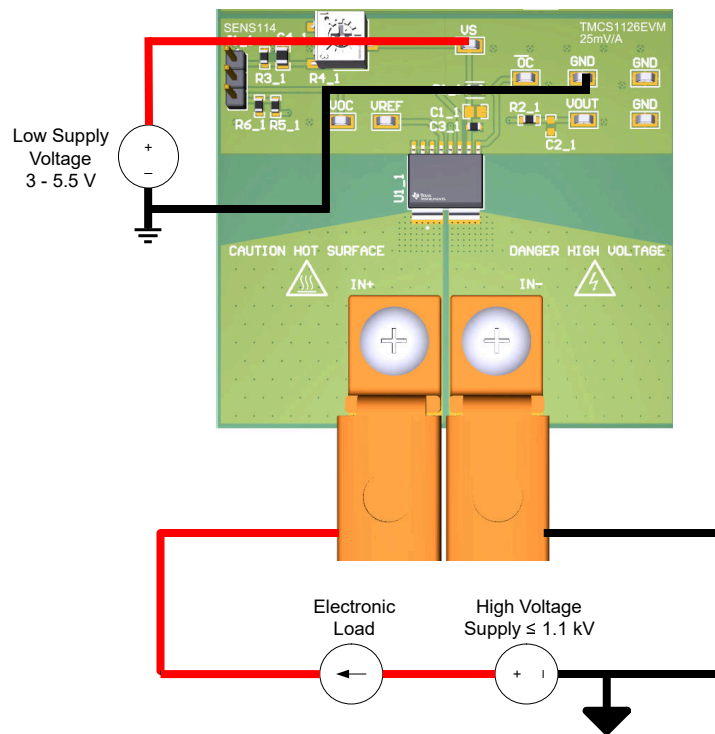

Figure 1-1. Low-Side Forward Current Setup for Reinforced Isolation
The following are instructions to set up and use the TMCS1126xEVM. Figure 1-1 shows an example of a simple, low-side setup on the A1 (25 mV/A) sensitivity variant. This device has isolation, and external supplies are distinguished by *high voltage* (HV) for load and *low voltage* (LV) for DUT supply. The HV supply can be isolated and at a different potential than the LV supply.
1. As illustrated in Figure 1-1, for a low-side measurement, connect the electronic load positive input terminal to the positive terminal of a supply capable of sourcing the desired amount of maximum load current. For a high-side measurement, connect the electronic load positive input terminal to the load sourcing terminal (IN+ or IN-) of the EVM. For high-side measurement of forward current, IN- sources to the electronic load; for reverse current, IN+ sources to the load.